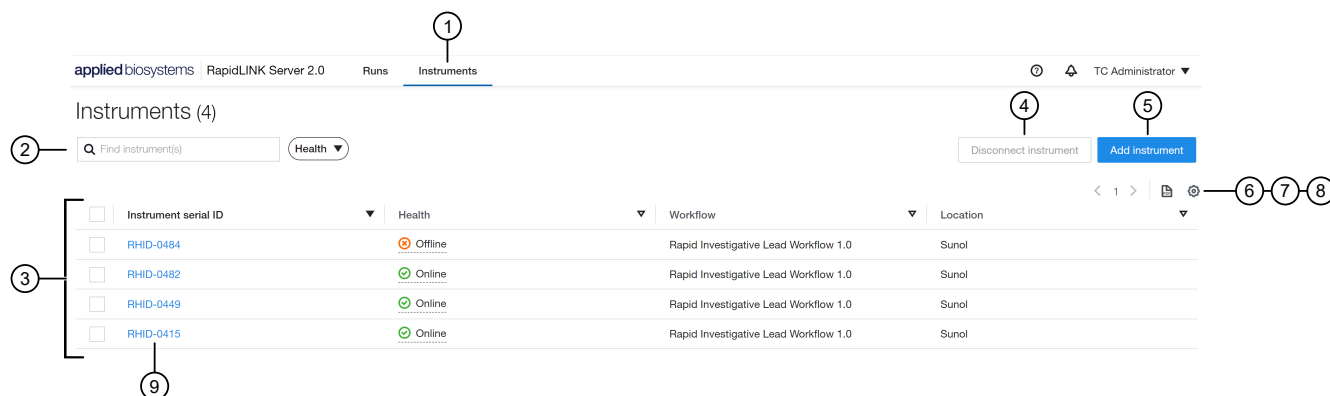

Figure 11 Instruments dashboard
2. Depending on your user role permissions, you can use the dashboard tools to perform the functions shown in Figure 11.